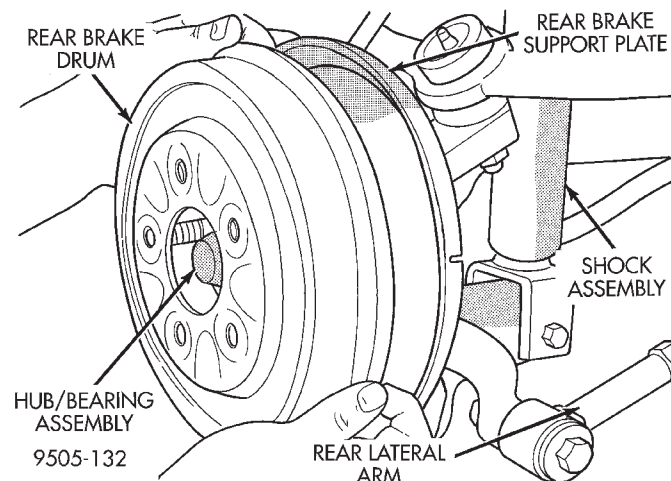

Fig. 62 Rear Brake Drum Assembly
(5) Remove rear brake drum to hub/bearing retaining nuts (if equipped). Then remove rear brake drum from hub and bearing assembly (Fig. 62).